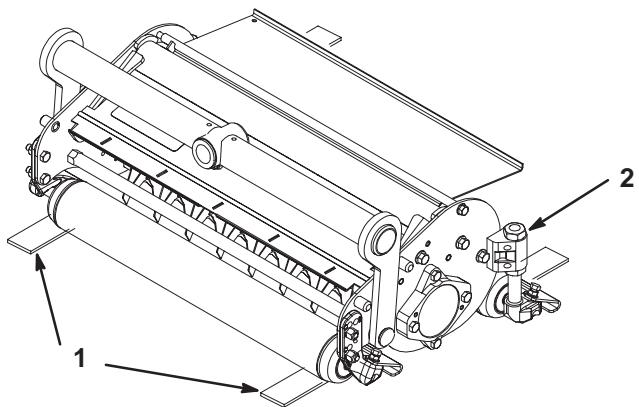

Figure 2
2. Place 2 gauge bars, which have the desired depth of blade penetration below the ground, under the front and rear rollers of the dethatching reel (on each end of the reel) (Fig. 2).
3. Turn the adjusting nut on each height-of-cut bracket (Fig. 2) so that the reel blades come in contact with the level surface on both ends.